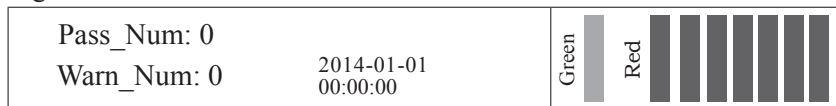
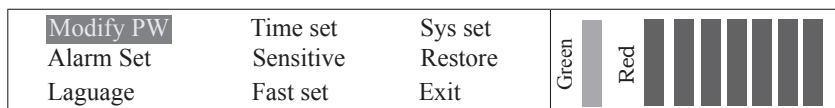

Fig. 1
Fig. 4
1. **Startup:** In the shutdown state, the system will be started up after user has pressed and held Key “A” for more than 1 second. During the startup process, the system will conduct signal self-test, “√” will be displayed when it has passed the test, “×” will be displayed when it failed to pass the test. After completing the test and setting the frequency properly, the system will go into the main interface, as shown in Fig. 1.
- (1) On this interface, press Key “B” to switch the digits; press Key “C” to amend the selected digits, and press Key “D” to confirm after completing inputting the password; if no operation has been conducted for more than 10 seconds in password entering interface, the system will automatically go into the main interface; if the entered password is incorrect, system will prompt users to enter the password again after user pressed Key “D”; if the entered password is correct, the system will go into the parameter setting interface, as shown in Fig. 4.
- (2) The initial password of parameter setting is “000000”, users may change them after entering parameter setting interface; the system has a universal password “612184”, and users may enter using this password when they forget their own passwords.
- (3) When system setting is important parameter setting, users may enter the systemsetting interface after entering password “654321”, and this password cannot be changed.
Select “Factory setting” on parameter setting interface for confirmation, and go into sensitivity setting interface, as shown in Fig. 12. Press Key “B” or “C” to select “Yes” or “No”. If the user selects “Yes” and press key “D”, the system will restore factory settings and go back to the interface in Fig.1; if the user selects “No” and press Key “D”, the system will not restore factory settings and it will go back to the interface in Fig.4.